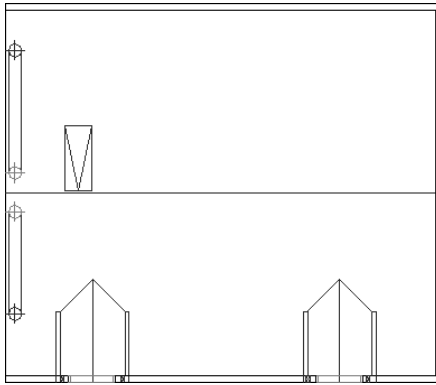

Figure 10-26: The longer garage.
5. Save your drawing. It should look like Figure 10-26.